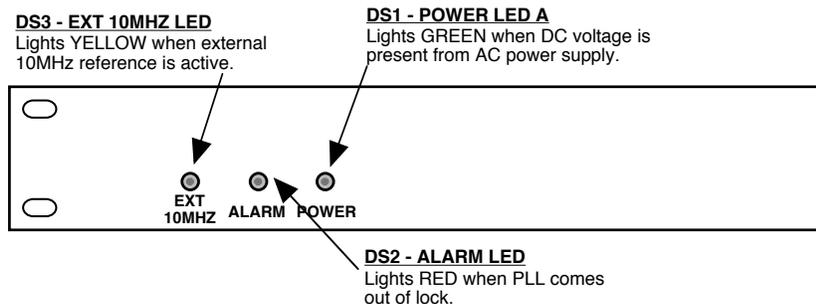

FIGURE 2.2 2116-140T120 Front Panel Controls and Indicators
Figure 2.2 shows the front panel indicators.
4. Be sure DS1 (green, DC Power) is on and DS2 (red, Alarm) is off (Figure 2.2).
6. If EXT is selected or AUTO is selected and there is a 10MHz, 3 dBm signal at J2, check that DS3 (yellow, Ext 10MHZ) is on (Figure 2.2).